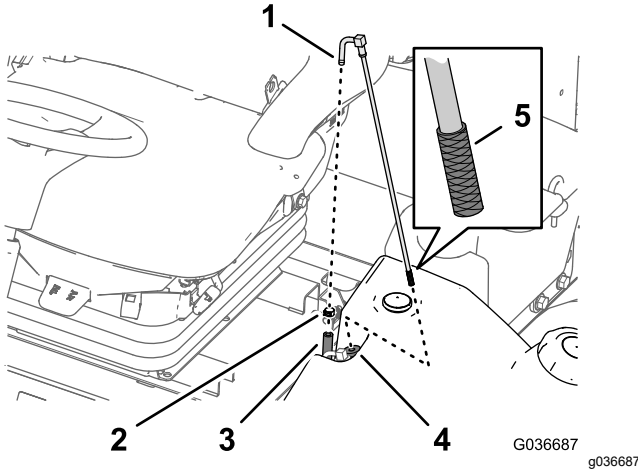

Figure 51
1. Remove the hose clamp that secures the fuel supply hose to the fitting of the fuel-pickup tube (Figure 51).
2. Separate the hose from the fitting (Figure 51).
3. Lift the fuel-pickup tube from the fuel tank (Figure 51).
4. Clean any debris from the screen at the end of the fuel-pickup tube (Figure 51).
5. Insert the fuel-pickup tube through the rubber bushing and into the tank (Figure 51).